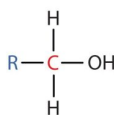

Figure 23.1e. Structure of primary (1°) alcohol (credit: Intro Chem: GOB \(V.1.0\), CC BY-NC-SA 3.0).
- A **primary (1°) alcohol** is one in which the carbon atom (in red) with the OH group is attached to *one* other carbon atom (in blue) (Figure 23.1e.). Its general formula is RCH_2OH .